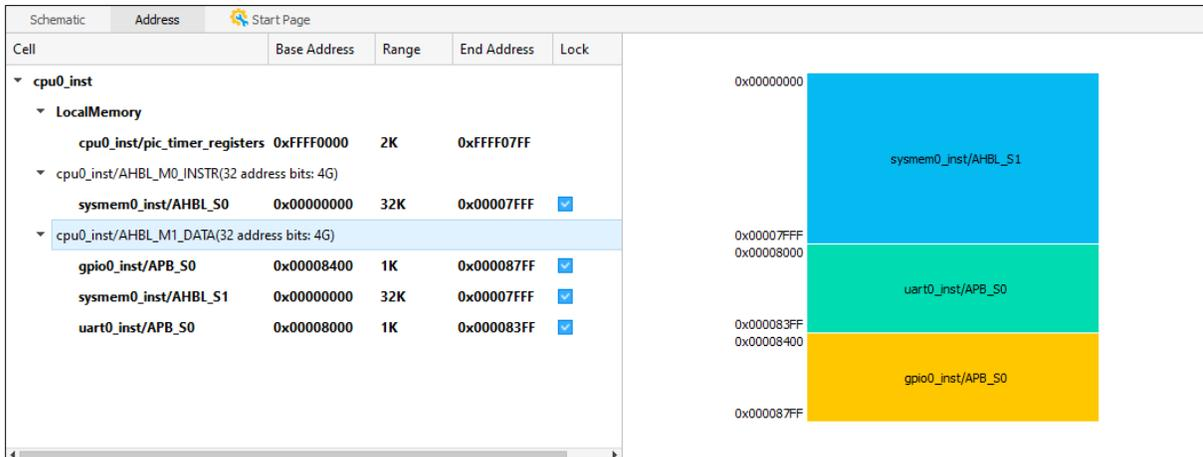

Figure 2.98. Address View
1. In the Propel Builder main window, click the Address tab. The Address view (Figure 2.98) shows.